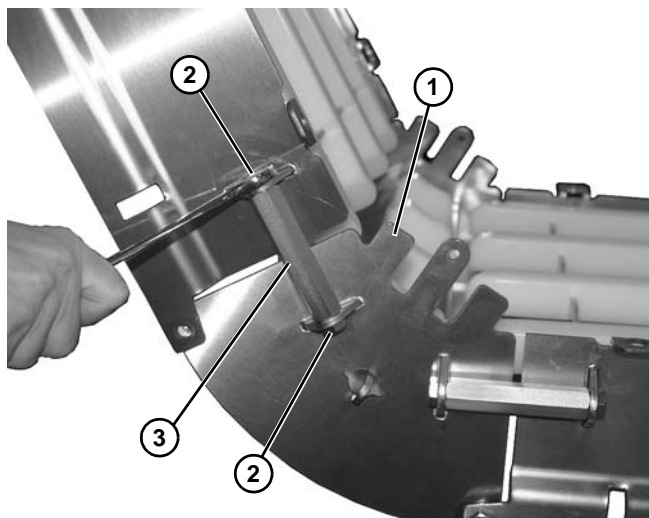

Figure 11
1. Attach lower knuckle (Figure 11, item 1) to frame using two screws (Figure 11, item 2) and a connector (Figure 11, item 3) on each side of the upper knuckle assembly.